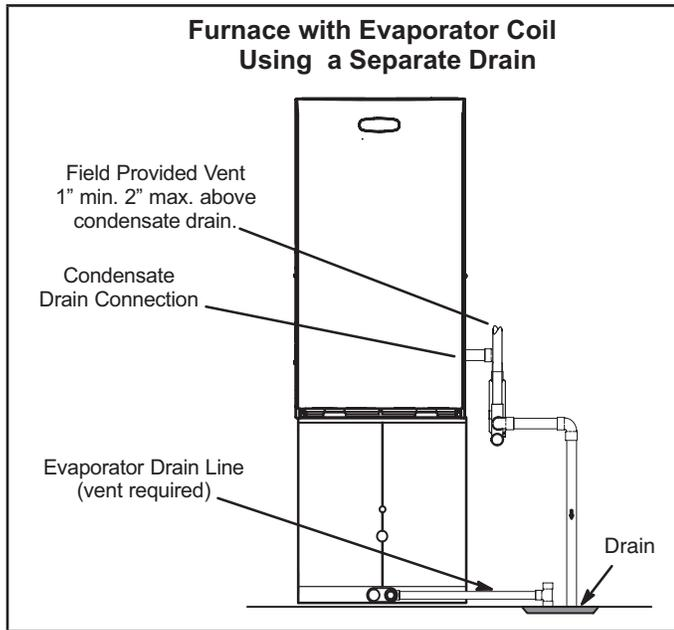
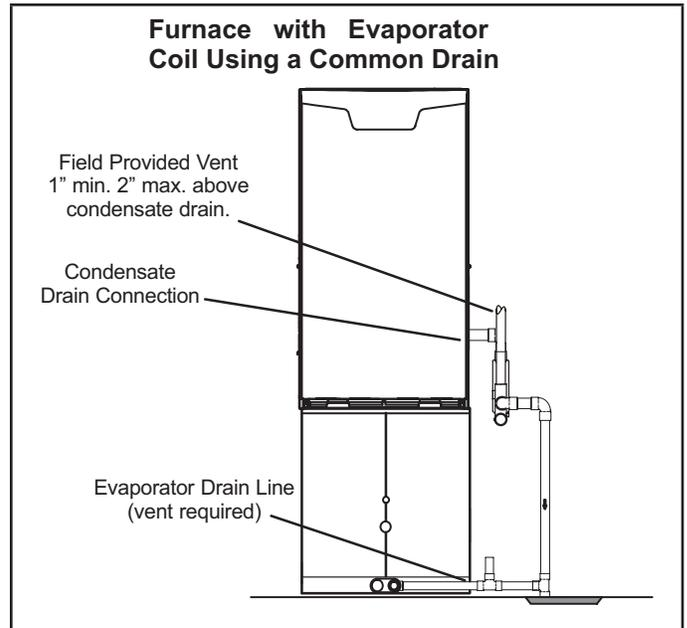

FIGURE 50
FIGURE 51
- 5 - Figure 50 shows the furnace and evaporator coil using a separate drain. If necessary, the condensate line from the furnace and evaporator coil can drain together. See figures 51 and 52. The field provided vent must be a minimum 1" to a maximum 2" length above the condensate drain outlet connection.